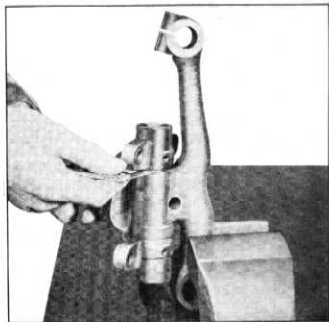

Fig. 28—Clearance Between Steering Knuckle and Support
3. After the kingpin is installed, check the clearance between the steering knuckle and knuckle support with a feeler gauge (fig. 28). If this clearance is more than .006", install a steel shim between the steering knuckle and top of the steering knuckle support.